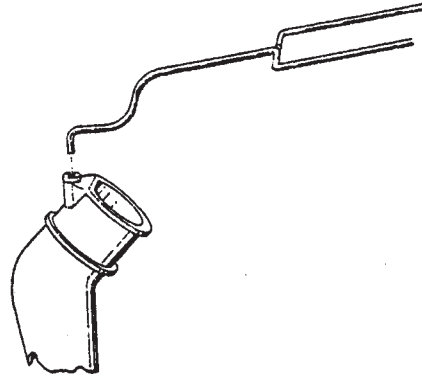

Figure 1
2. Install dust bag support to the exhaust bracket (figure 1). Place opening of dust bag over dust bag support and exhaust bracket; cinch and tie securely to exhaust bracket.